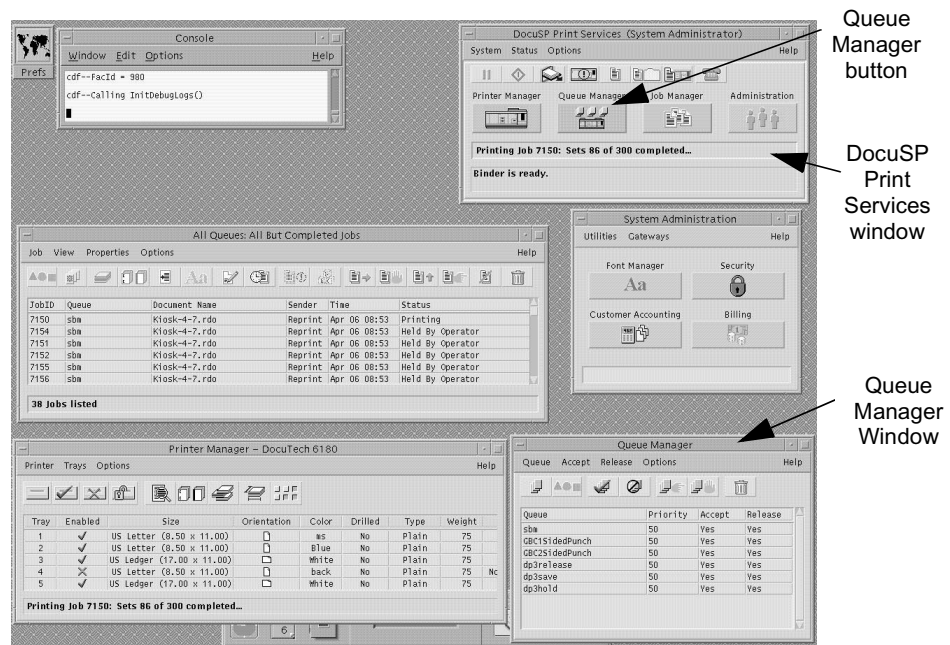

Figure 1-15: 61XX Monitor screen and Queue Manager window
- 1 From the 61XX Monitor screen, go to the **Queue Manager** window, as shown already open in Figure 1-15. If it is not open, go to the DocuSP Print Services window and click the Queue Manager button.